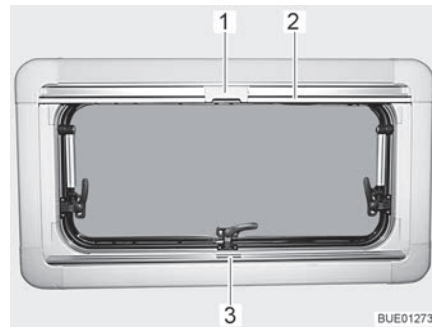
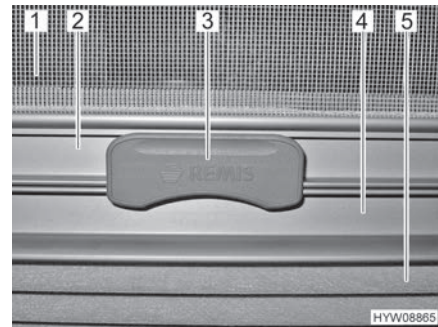

Fig. 34 Hinged window
Fig. 35 Catch
The Roman shade (Fig. 35,5) is located in the lower blind box.
- Seize the Roman shade by the centre of the holding bar (Fig. 34,3 and Fig. 35,4), pull it from the bottom to the top and release it at the desired height. The Roman shade will stay at this height.
The insect screen (Fig. 35,1) is located in the upper blind box.
- Pull the insect screen down by the holding bar (Fig. 34,2 and Fig. 35,2), until it touches the holding bar of the Roman shade (Fig. 35,4).
- Clip the catch (Fig. 34,1 and Fig. 35,3) on the insect screen into the holding bar of the Roman shade. When the catch is locked, the Roman shade and the insect screen can be adjusted together.
- Push the catch (Fig. 35,3) on the insect screen upward.
- Move the insect screen back slowly on the holding bar (Fig. 34,2).